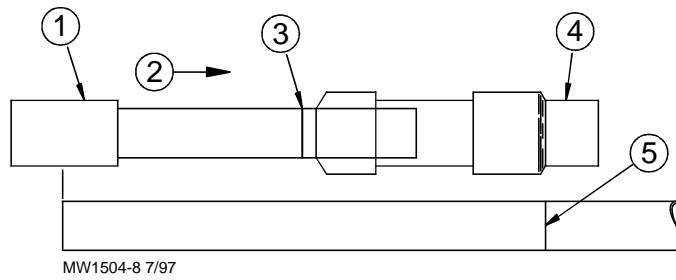

Figure 6
3. Install a slip connector, as shown in **Figure 6**, at the SIXTH PIPE JOINT. The slip end of the connector should be closest to the manifold end of the house. Glue the coupling to the water line coming from the manifold end. See directions on page 6 for instructions for proper use of PVC cement.
Make sure that the indicator line on the Slip Connector is aligned with the edge of the cap on the Slip Connector, as shown in **Figure 6**.
Align the next section of pipe and cut off to proper length as shown in **Figure 6**.